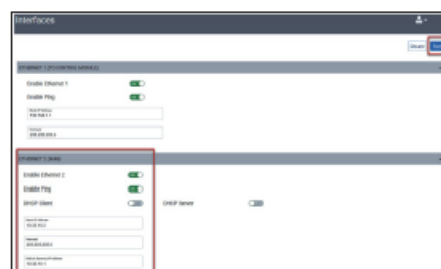

Figure 35. The Ethernet 2 (WAN) section of the *Interfaces* screen.
3. STEP 3. Go to the Ethernet 2 (WAN) section and enable the interface by toggling the Enable Ethernet 2 setpoint to the On position, if not already enabled, and make sure the DHCP Client setpoint is disabled and in the Off position. Now, configure the Static IP Address setpoint with the IP address copied from the IntelliRupter fault interrupter's Ethernet IP address in Step 6 on page 14. Do the same for the Netmask setpoint (which will be the subnet mask copied from the IntelliRupter fault interrupter) and the Default Gateway IP Address setpoint (which will be the default gateway address from the IntelliR-upter fault interrupter). Then, click on the Save button in the top right of the screen to save the configuration. See Figure 35.